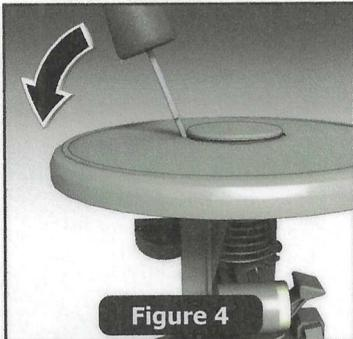

Figure 4
1. With a screwdriver, remove the top cover cap (**Figure 4**).